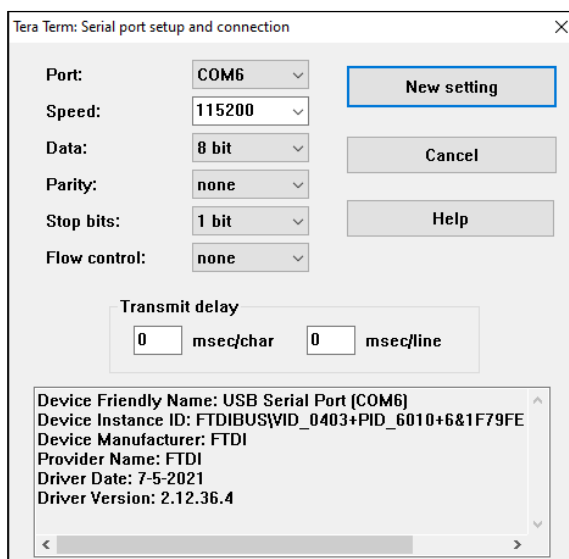

Figure 7.4. Tera Term Serial Port Setup and Connection
7. Configure the remaining settings as shown in Figure 7.4.